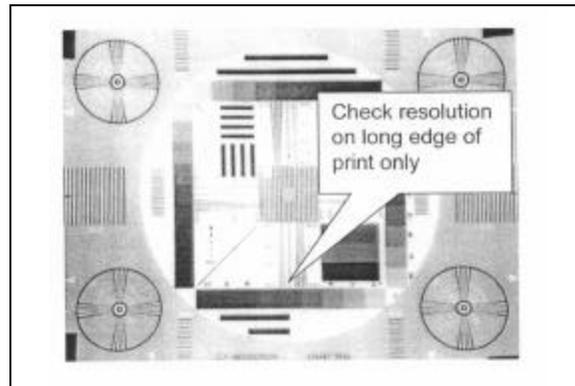

Figure 3-20 Resolution chart
4. Set the Resolution Chart (Figure 3-20) 6.5 feet (2 meters) away from the front of the camera lens.